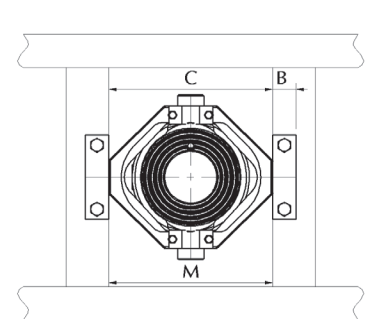

Fig. 4
- cradle width + 2x (2mm clearance), for closed bolted brackets (Fig. 4).